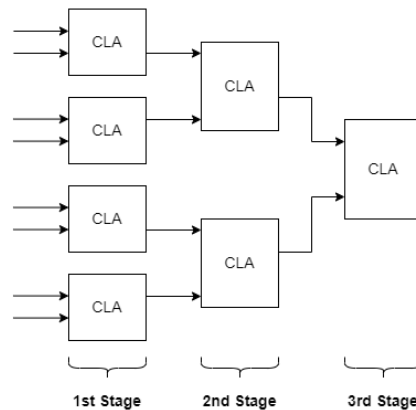

Figure 2: Three Adder Stages
3. Implement **three adder stages** to obtain the final result as shown in **Figure 2**. Use **16-bit Carry Lookahead Adders** for each adder stage. Define 16-bit wires **sum1**, **sum2**, **sum3**, **sum4**, **sum5**, **sum6**, **sum6** as the outputs of the adders. The **sum6** value will be written to the **result**.
5. Implement a similar adder structure as shown in **Figure 2**. Use **16-bit Carry Lookahead Adders** for each adder stage to obtain the final result.